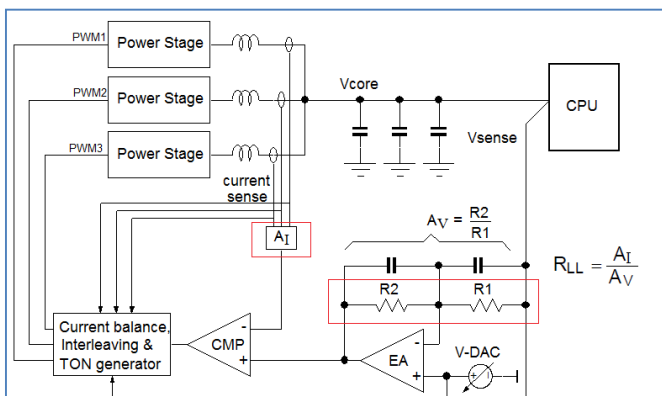

FIGURE 6: CONTROL LOOP WITH G-NAVP
The Richtek VCORE regulators make use of a current mode (CM) - Constant On Time (COT) control loop for the basic voltage regulation. The simplified block diagram is shown in figure 6.